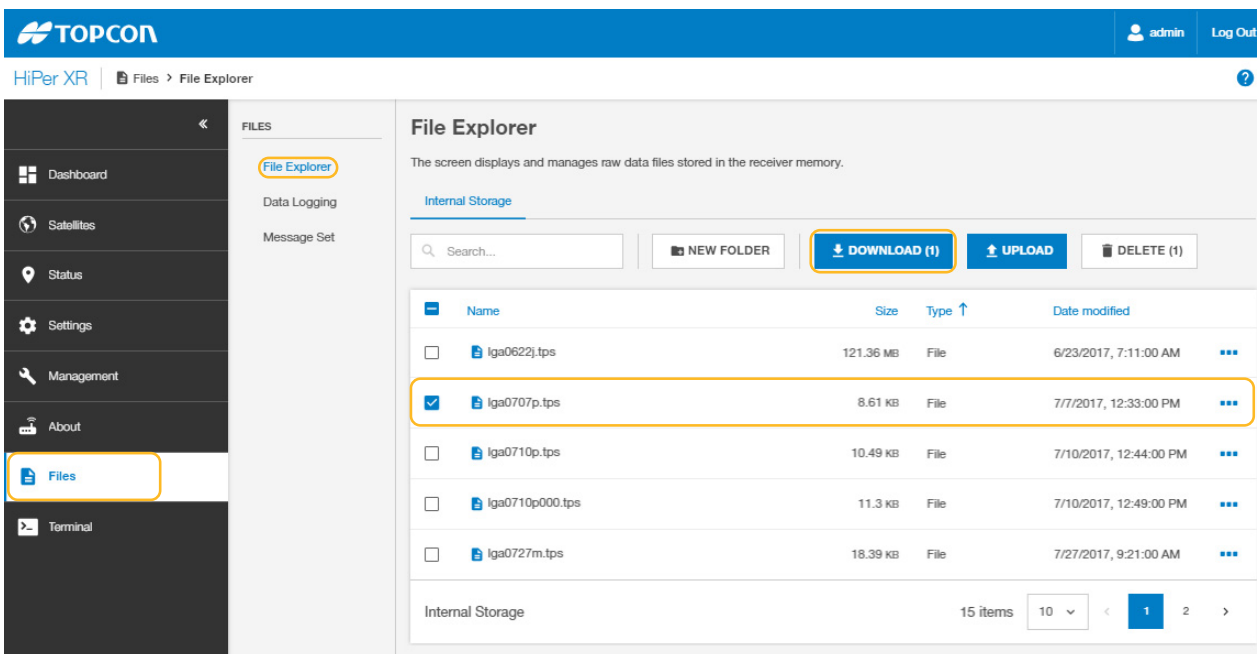

Figure 2-29: Log File Download
1. Connect the receiver to a field controller or computer to open the on-board web UI (Figure 2-29 on page 2-28).